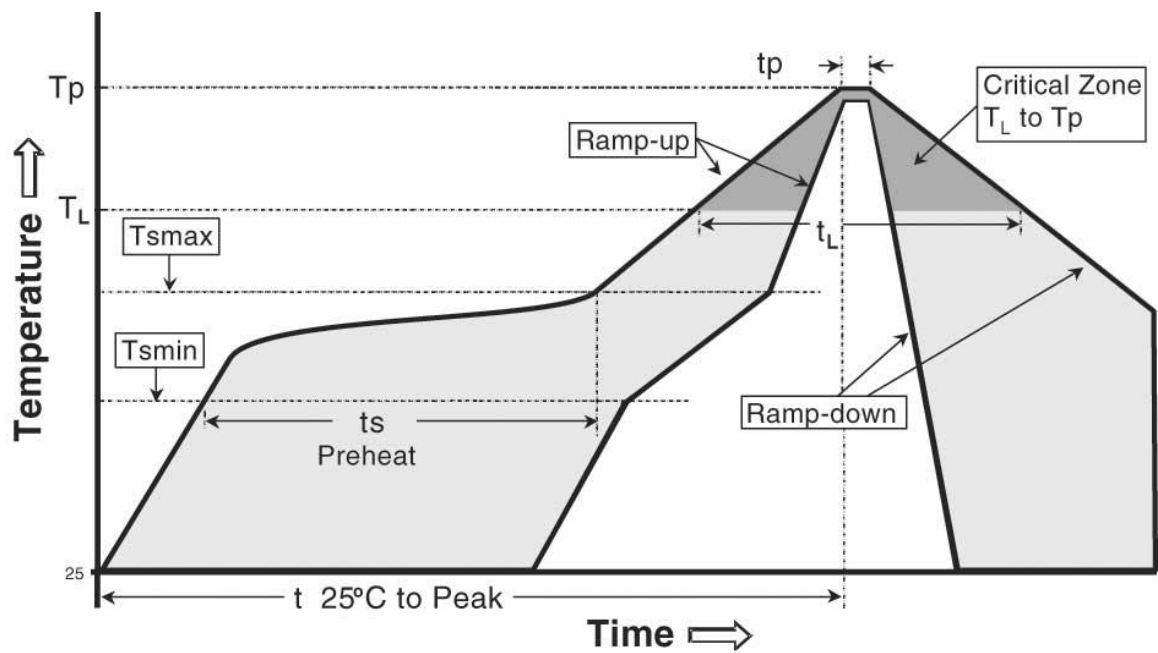

Figure 13 – Temperature profile.
2. Perform a reflow process according to the temperature profile detailed in Table 8, Figure 13.